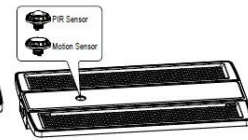

Figure 4
2. Twist-lock the DC sensor to the socket (Figure 4).